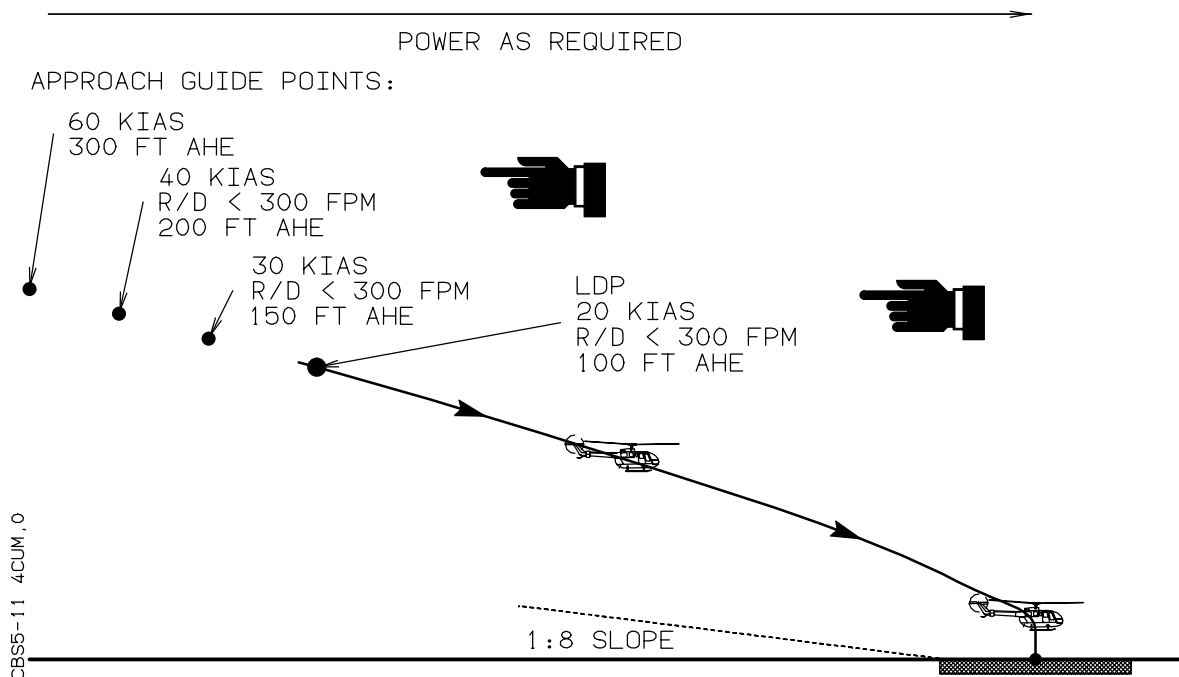

Fig. 16 VTOL - Vertical Landing Profile
4.2 HELIPAD VERTICAL LANDING (see Fig. 16 and 17)